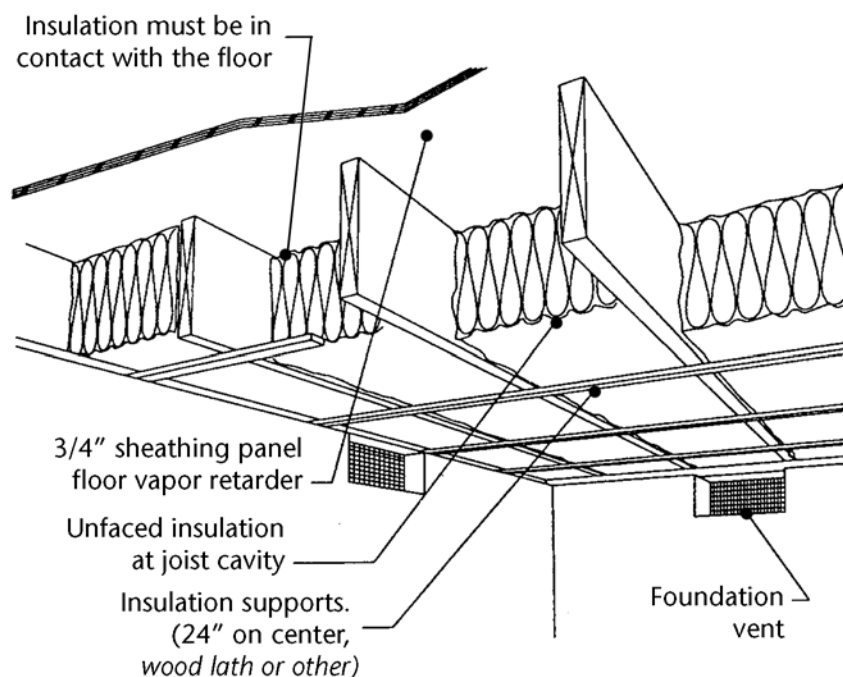

Figure 4-6
**Floor Insulation Supports.** Floor insulation must be installed in a permanent manner and in substantial contact with the surface being insulated (see Figure 4-6 or 4-7). Insulation can be held in place using: